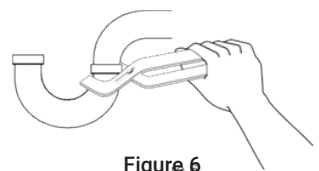

Figure 6
1. Use pipeline tongs to remove the U-shaped pipe (see Figure 6).